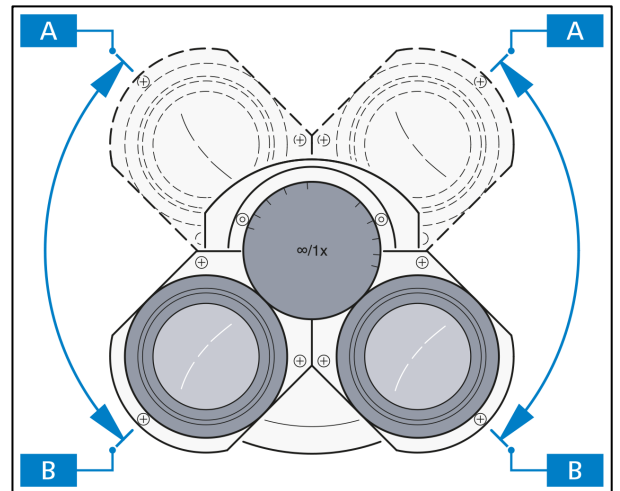

Fig. 4-2 Setting the viewing height on the binocular tube
- Adjust the viewing height to your individual requirements by swiveling the eyepiece tubes up (Fig. 4-2/A) or down (Fig. 4-2/B).